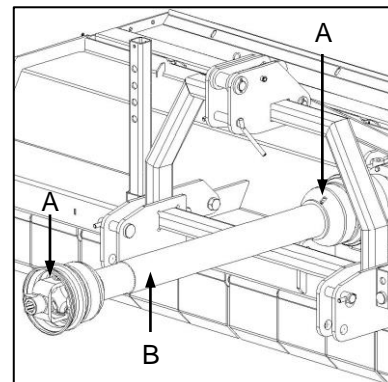

Fig. 10
- ✔ Apply grease to the universal joints (Fig. 10-A) and telescopic tubes (Fig. 10-B) of the PTO shaft.
- ✔ Ghries die kruiskoppelings (Fig. 10-A) en teleskopiese buise (Fig. 10-B) van die kragtakkeras.